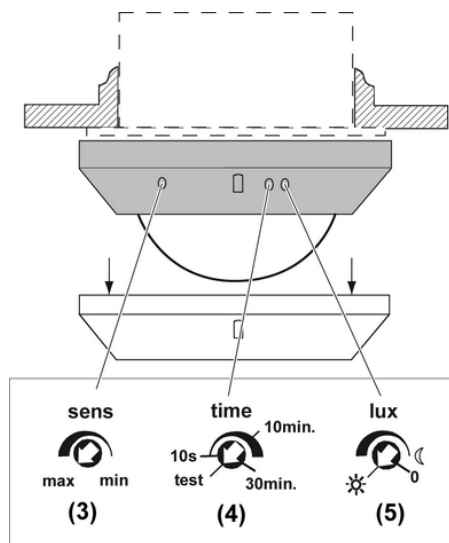

Figure 4: Test setting
- Pull off push-on cover (10)
- Pull off decor ring (9).
- Set **sens** adjuster (3) to **max**(Figure 4).
- Set **time** adjuster (4) to **test**.
- Set **lux** adjuster (5) to ☀ for brightness-independent switching.
- Turn the **time** adjuster (4) to the required position (Figure 4).
- Set **time** adjuster (4) to **test**(Figure 4).
- Turn **sens** adjuster (3) slightly in the **min** direction, because at maximum sensitivity unwanted switching may occur.
- i** To make the short-time operation independent of brightness, turn **lux** adjuster (5) to ☀.
- Turn the **lux** adjuster (5) to the required position (Figure 4).